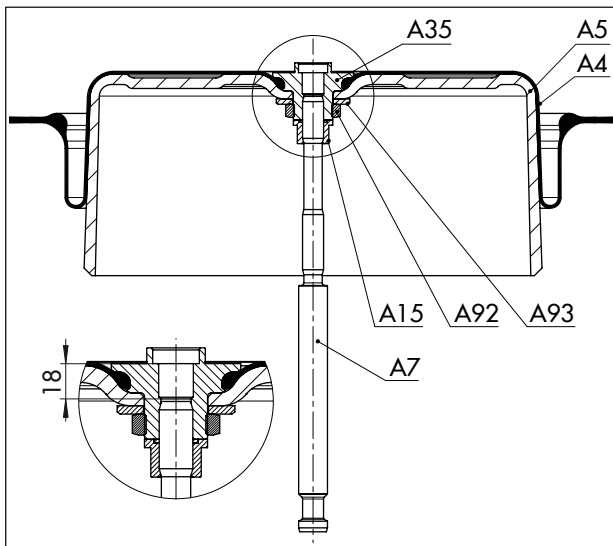

Fig. 13: Arrangement of parts for "stem retracts" direction of action (1000 cm²)
7. Screw the actuator stem (A7) the other way round into the compressor (A35). Adjust the dimension to 18 mm (see Fig. 13).
15. Unscrew the vent plug (A16) from the top signal pressure connection and screw it into the bottom connection (S).